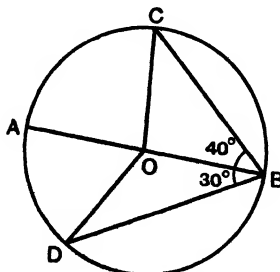

FIG. 35. DIAGRAM FOR EXAMPLE 6
6. Draw a circle with centre O and diameter AB. Make an angle ABC equal to  $40^\circ$ , and, on the other side of AB, an angle ABD equal to  $30^\circ$ . Join OC and OD, Fig. 35. Write down the sizes of all the angles in your figure. Check by measuring them. Join AC and AD. Write down the sizes of the new angles you have made and check by measurement.